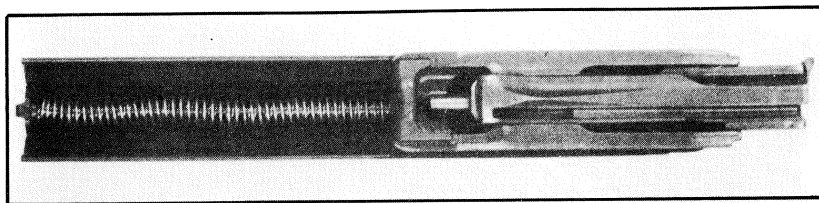

Fig. 145
- The two return springs are incorporated to the mechanism and placed into the cover (fig. 145) which form an assembly, simplifying the operations of assembly and disassembly. The L. A. R. — PARA can also launch grenades.